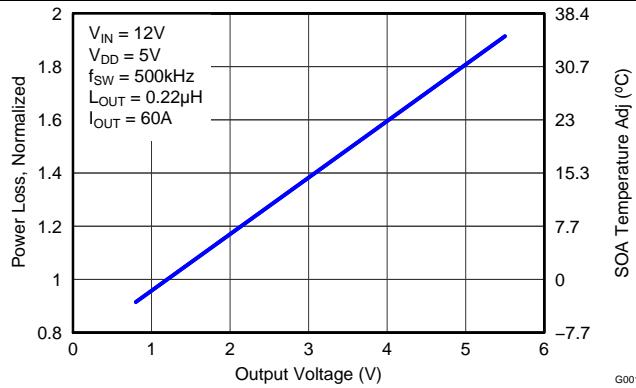

Figure 7. Normalized Power Loss vs Output Voltage
- Normalized Power Loss for output voltage ≈ 1.06 (Figure 7)
- SOA adjustment for output voltage $\approx -0.8^{\circ}\text{C}$ (Figure 7)